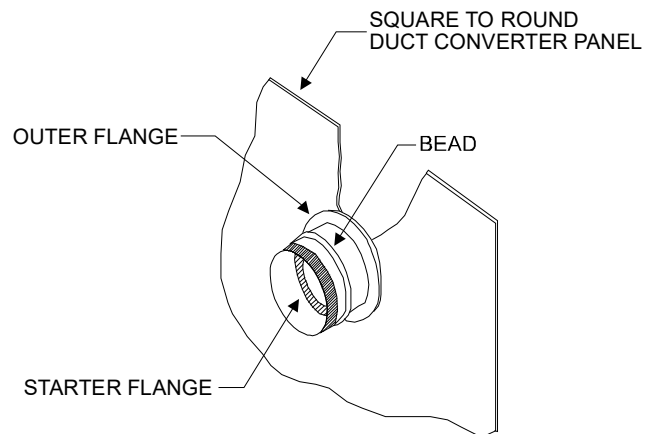

FIGURE 3
32.5" and 36" SQRPCH103 (See Specification Sheets for Dimension details). The SQRPCH101 has 14" duct collar on supply and 16" duct collar (equivalent diameter, opening is oval) on the return. The SQRPCH102 and SQRPCH103 have 14" duct collar on supply and 18" duct collar (equivalent diameter, opening is oval) on the return. The collars are to be slipped into the openings, and the flanges bent around the converter. The square to round converter is attached to the flanges of the square duct openings. The flexible duct is then clamped on to the collars. Once the duct is affixed to the unit, **seal the collars and flanges with a proper waterproof sealant** (See Figure 3).